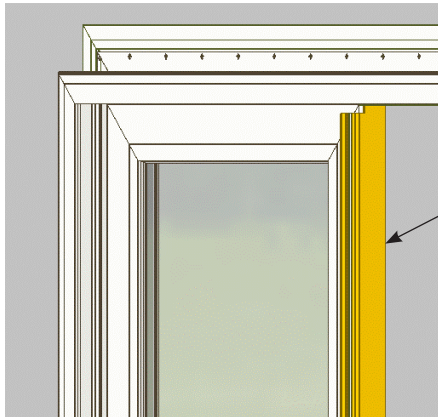

Figure 1D
- c. For a **Four Panel Door**, install one stationary panel to the far-left side of the frame and one panel to the far right side of the frame (Figure 1D, 1E).